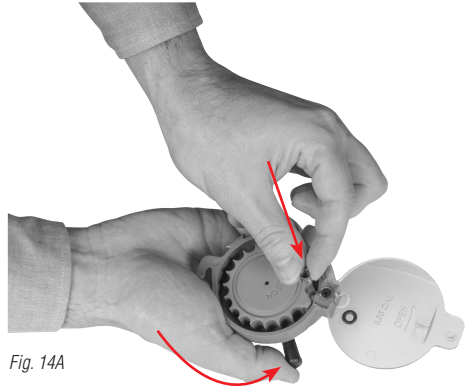

Fig. 14A
3. With your thumb, twist the winding tool counter clockwise and hold it. With your other hand load one pellet (with its skirt upwards) in the magazine, inline with the opening of the magazine body. This will hold the magazine in the wound position. **(Fig. 14A)**